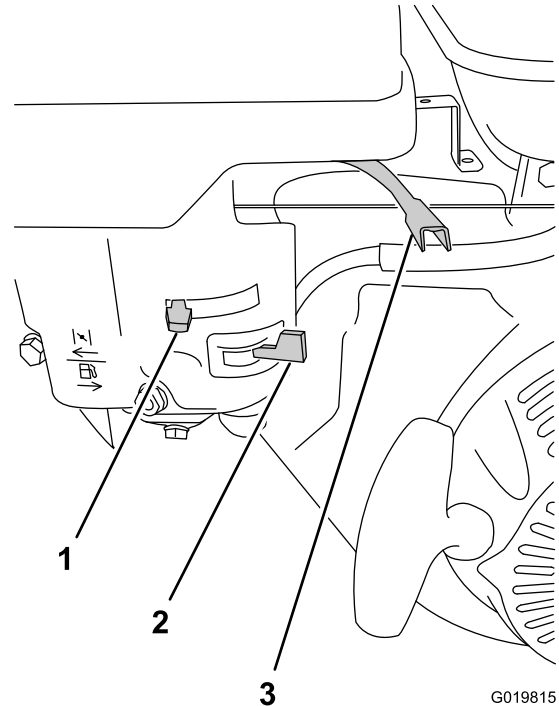

Figure 29
2. On the engine, move the throttle lever away from the Min position, 1/3 of the way toward the Max position (Figure 29); refer to Throttle Lever (page 10).
3. Move the lever of the fuel valve to the On position—all the way to the right (Figure 29); refer to Fuel Valve (page 10).
- To start a cold engine, move the choke lever to the Closed position—all the way to the left (Figure 29); refer to Choke Lever (page 10).
5. Rotate the engine switch to the On position (Figure 29); refer to Engine On/Off Switch (page 10).
1. Ensure that the choke lever is in the Off position (Figure 29); refer to Choke Lever (page 10).
2. Move the throttle lever to the Min position (Figure 29); refer to Throttle Lever (page 10).